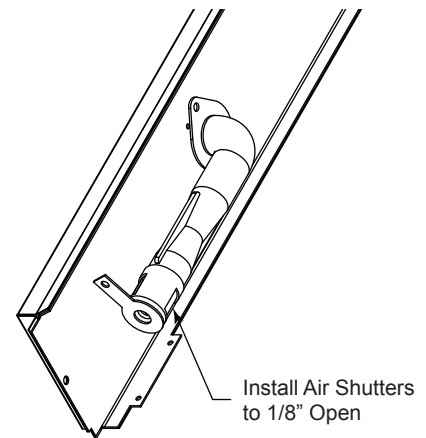

Figure 78 - Install Air Shutters - Conversion to Natural Gas
- For conversion to Natural gas:** Install new air shutters provided and adjust to 1/8" opening. Figure 78